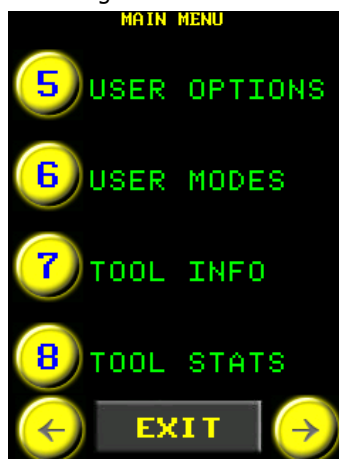

Figure 5.9-1: Main Menu
2. Select "User Modes" from the Main Menu (Figure 5.9-1).